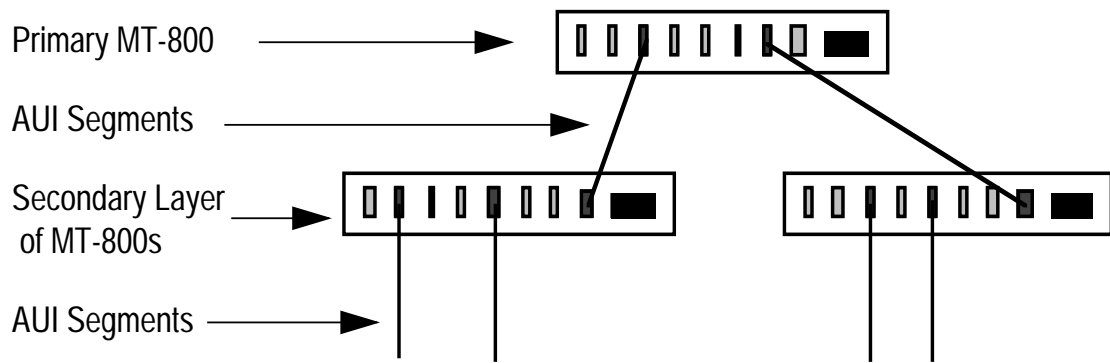

Figure 2-3. MT-800 in Stand Alone Cascaded Configuration
- c. When an MT-800 in the stand alone mode is cascaded with another MT-800 (Fig. 2-3), the total AUI length from the main MT-800 (1) to an end device must not exceed 30 meters.